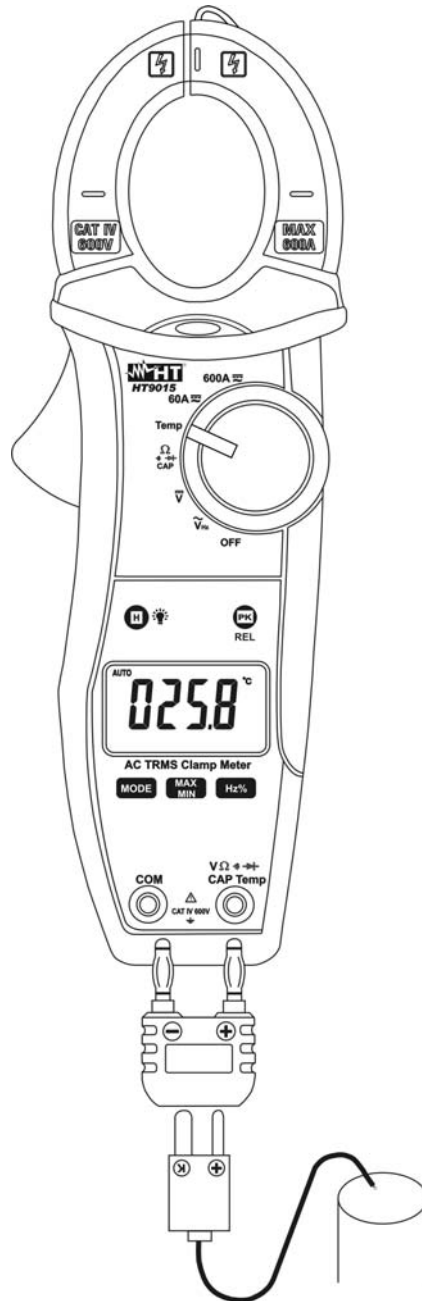

Fig. 8: Taking Temperature measurement
3. Insert the type K bead probe in **VΩ** and **COM** inputs terminals using the standard adapter and observing the correct polarity (see Fig. 8). The temperature value is shown at display